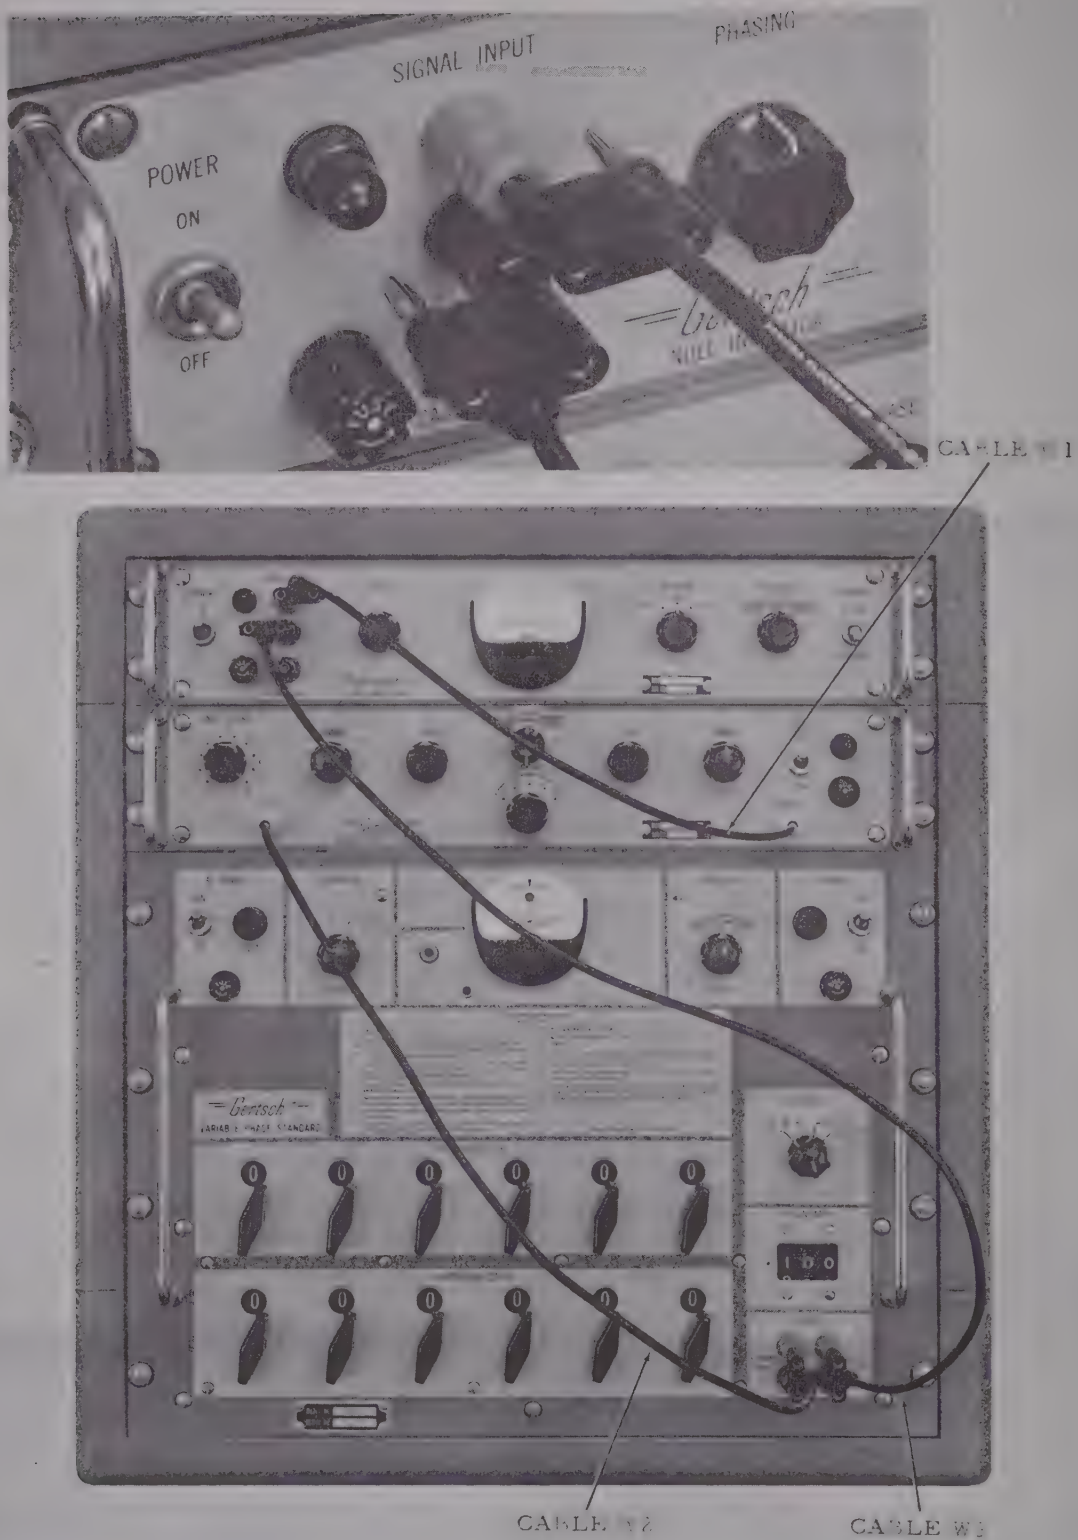

Figure 1-18. Cable Installation
a. Interconnect equipment as shown in figure 1-18.
p. Check that null occurs with QUADRATURE (SIN θ) control knobs H7 through H12 set at .100000 $\pm$.000010. Because of circuit noise, the null may be obscured. Use an average reading if ratio exceeds this limit, adjust amplitude adjustment as follows. (See figure 1-18.)